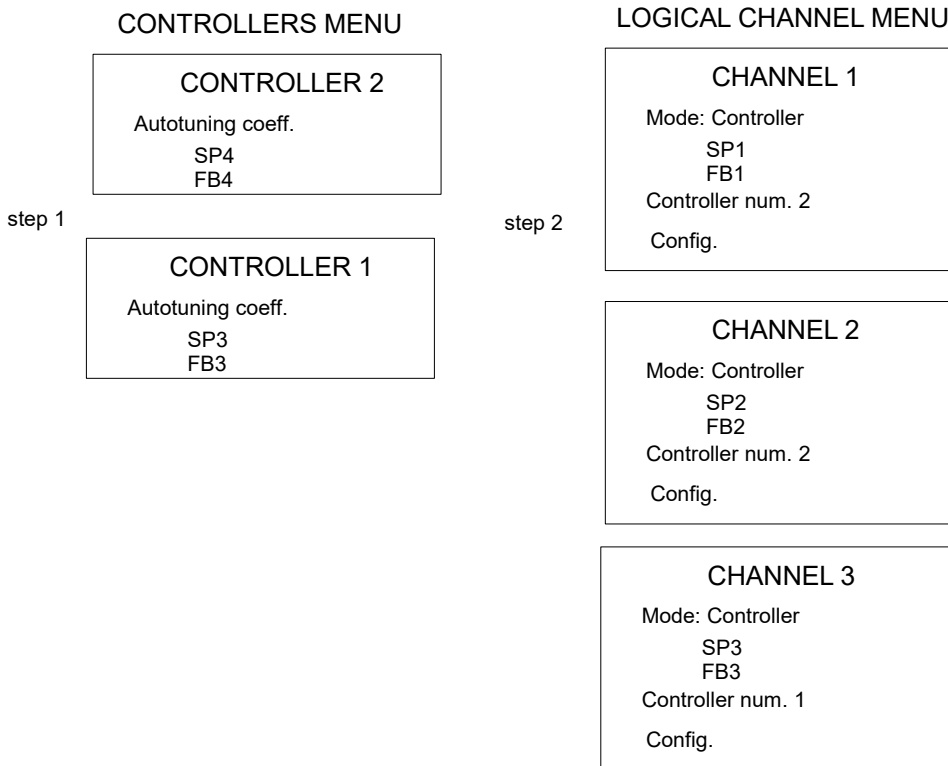

Fig. 7.123. Configuration diagram of the **Controller** using Controller Menu
- through the menu Controllers in the Device Configuration menu (see Fig. 7.123),